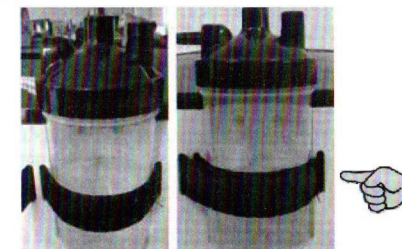

Fig. 4
- b) Put the humidifier on the humidifier connection base of this product and tie up the magic stick (Fig. 4). Please make sure that it is firmly installed.